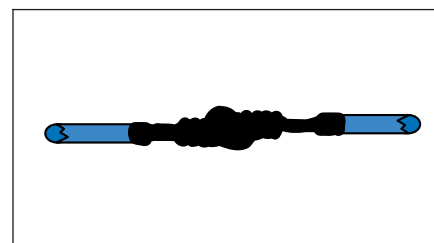

Figure 5 Cover with Heat-Shrinkable Tubing
11. Position insulation sleeve/tubing over the spliced area, apply heat to shrink to a snug fit over the splice and wire. (See Figure 5.)